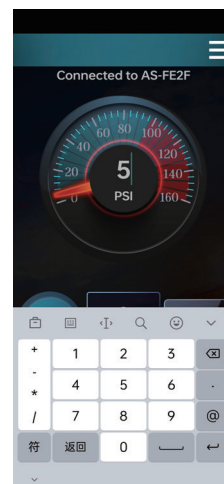

Fig. III.2.2
- 3) Click on the air pressure number to manually enter a desired pressure. Then click on blank area to set pressure configuration. Refer to Fig. III.2.2.